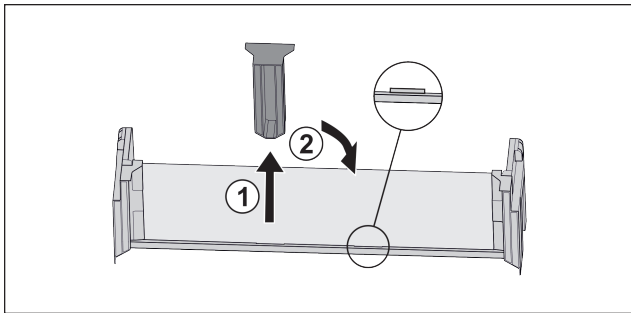

Fig. 83 *
- ▶ Pull off the middle holder Fig. 83 (1)*
- ▶ Insert the middle holder in the second position Fig. 83 (2)*